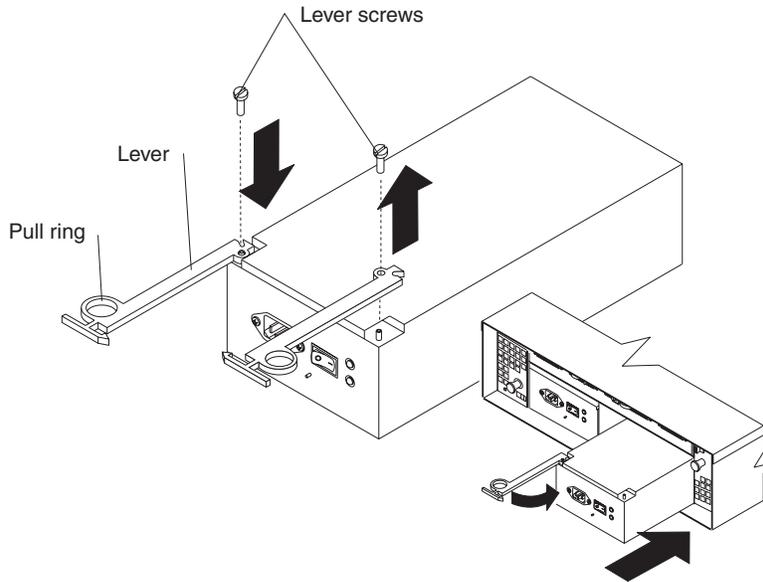

Figure 40. Moving the power-supply lever and replacing the failed hot-swap power supply
Note: When you replace the failed power supply, ensure that the new power-supply lever is attached to the side of the power supply that faces the middle of the expansion unit. If it is not, remove the lever screw, flip the lever over, and tighten the screw on the opposite side as shown in Figure 40 on page 44.
- a. Slide the power supply into the expansion unit. Be sure the lever is pulled straight out as you slide the power supply into the expansion unit (see Figure 40).